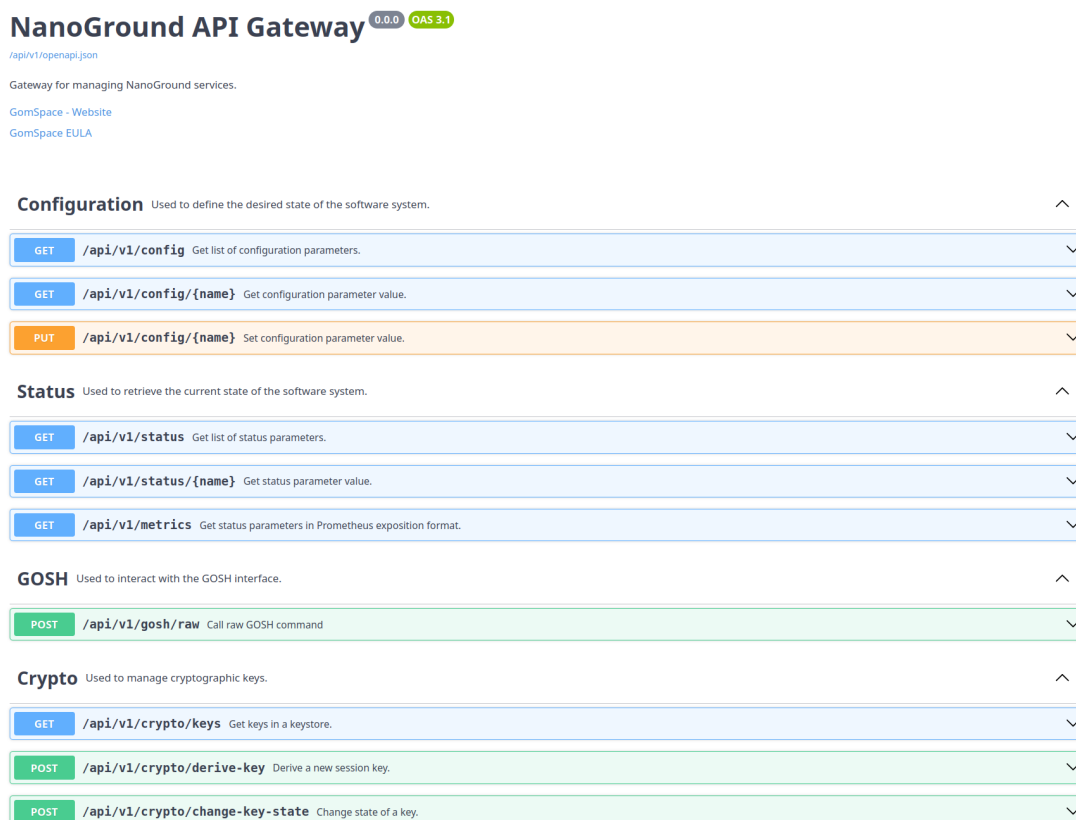

Figure 4.1: NanoGround Swagger UI.
The REST API is available at `/api/v1/` and documented using the OpenAPI standard. The documentation is available at `/api/v1/openapi.json`. For exploration and early testing, a Swagger user interface (UI) is available at `/api/v1/docs/`. The Swagger UI is a web-based interface, as shown on Figure 4.1, that allows you to interact with the REST API and test its endpoints [1].